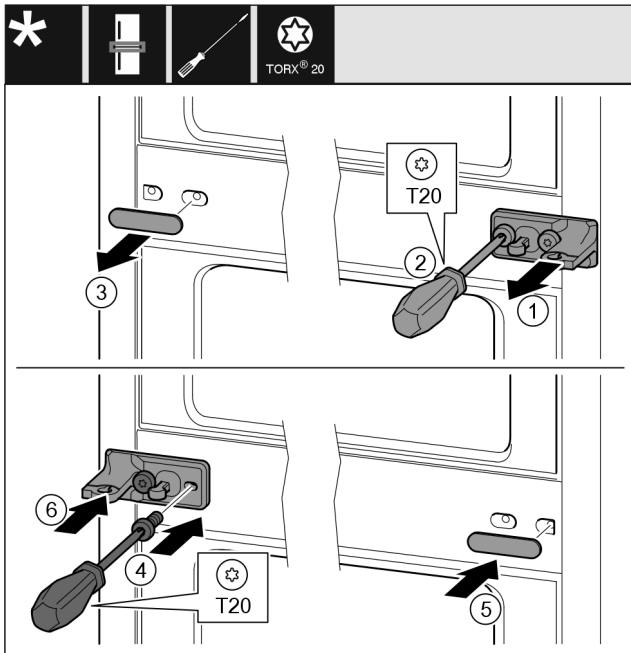

Fig. 35
- Remove the washer Fig. 35 (1).
- Unscrew screws Fig. 35 (2) with screwdriver.
- Remove the cover Fig. 35 (3) carefully.
- Turn the bearing block with film Fig. 35 (4) by 180° and screw it tight on the other side.
- Turn the cover Fig. 35 (5) by 180° and attach to the other side.
- Slide on the washer Fig. 35 (6) from the front.